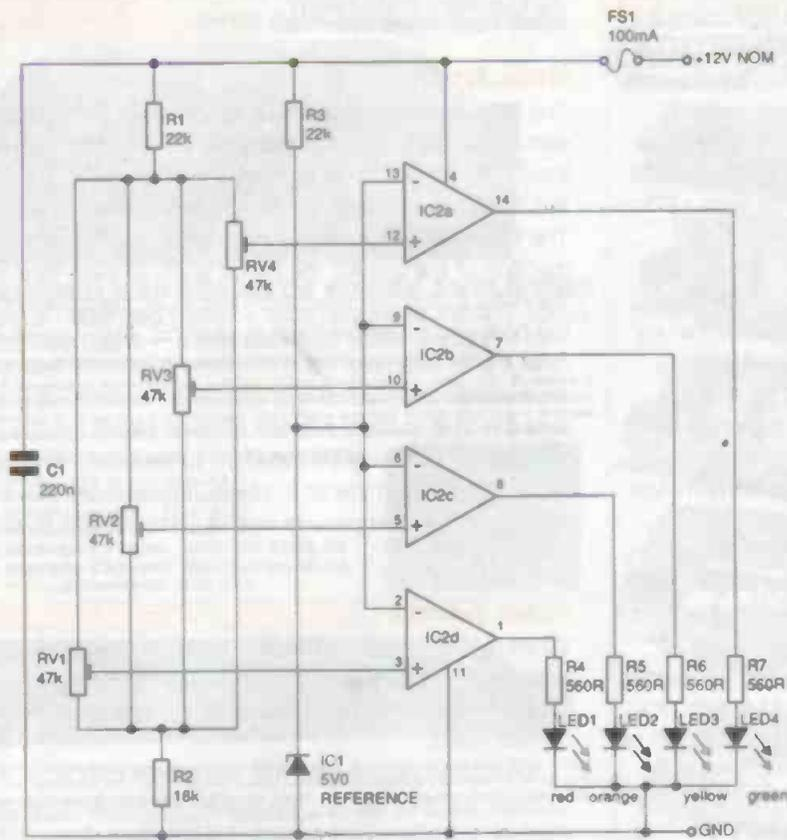
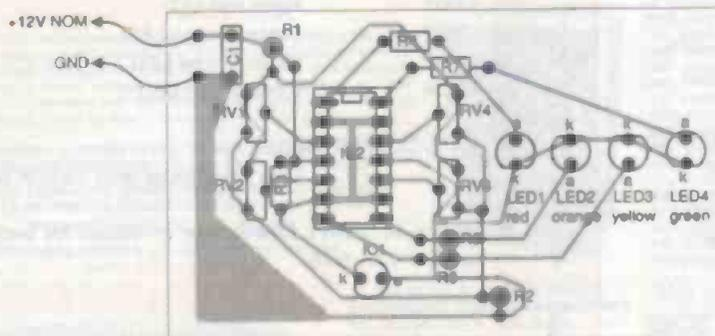

Figure 1: the circuit of the LED voltmeter battery checker
Figure 2: the component layout of the LED voltmeter battery checker
The complete circuit for the LED battery checker is shown in figure 1. It will be seen that the design centres on IC2, which contains four identical operational amplifiers, IC2a, IC2b, IC2c and IC2d each used as a voltage comparator. The specified ic is particularly good for this application. It is a robust bipolar device and works correctly from single supply rails as are used in this circuit. Also, the circuit will not be damaged if it is connected to the battery with incorrect polarity. Each op-amp section has two inputs, the "+" (non-inverting) and the "-" (inverting) one. The theory of operational amplifiers states that, if the non-inverting input voltage at any unit exceeds the inverting one, the appropriate output will be on.
**figure 2.** Begin by soldering the ic socket and two link wires in position. Follow with all the resistors (including the four presets) and capacitor. Solder the LEDs in place taking care over their orientation (the cathode end is marked "k" in figures 1 and 2). Note that with LEDs 1 and 4, the cathode end is connected to the lower track on the PCB whereas with LEDs 2 and 3 it is the upper one - If the polarity is incorrect, the LED will not work. The tips of the LEDs should stand approximately 20mm above the circuit panel and should all have exactly the same height so that